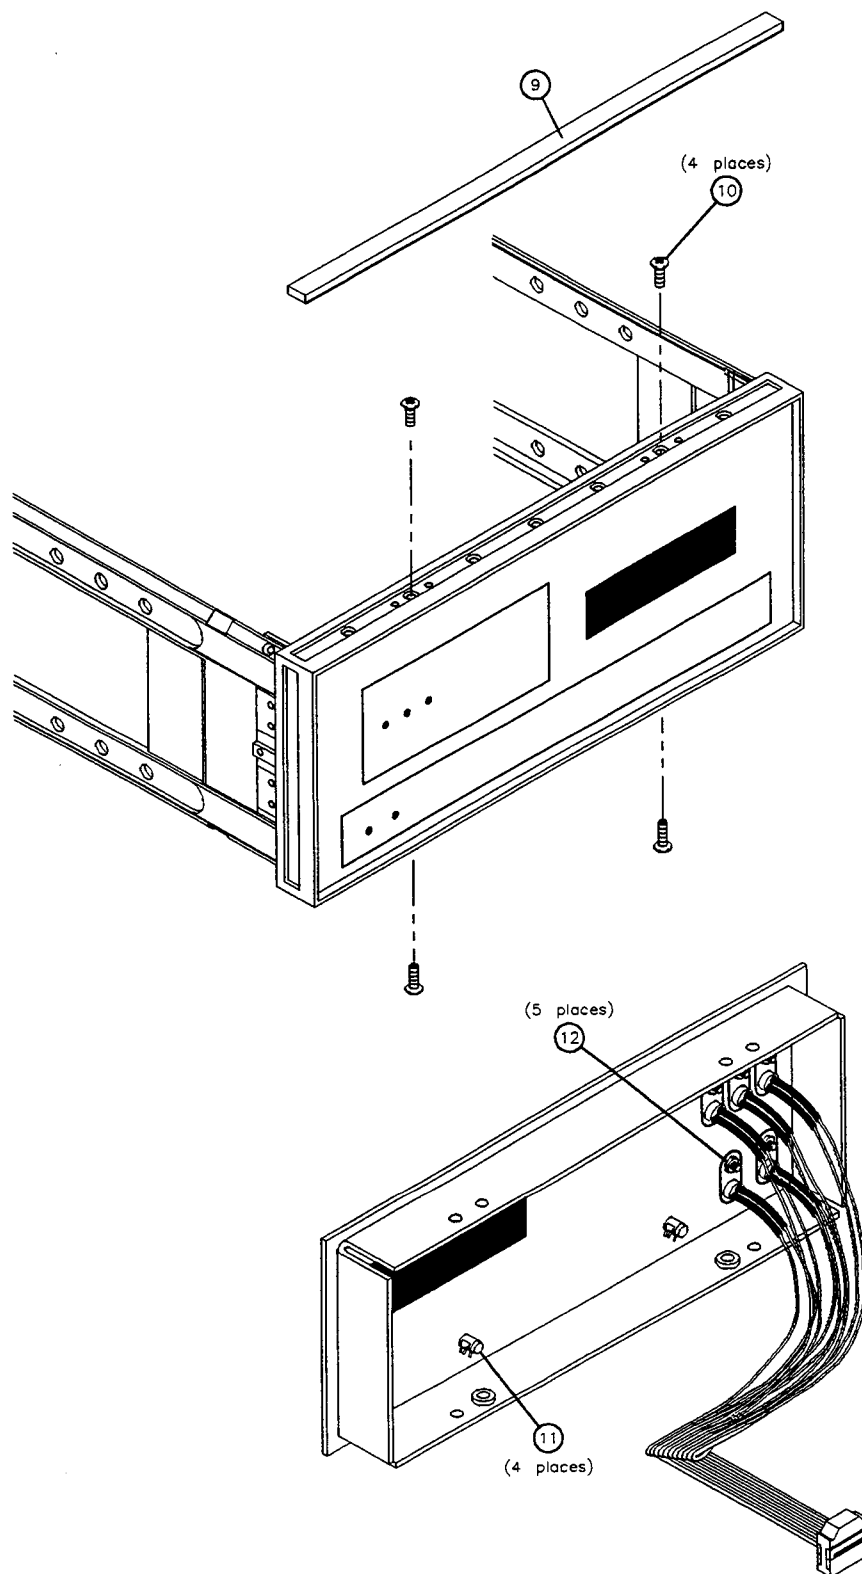

Figure 6-12. Front Dress Panel Replacement
The items shown in parentheses refer to the corresponding items, shown in Figure 6-12.
2. Remove the four screws (item 1) from the corners of each side frame. Remove the ten screws (item 2) from the sides of each side frame.
3. Remove the center screw and washer (item 3) from the relay cover.
4. Disconnect the ribbon cable (item 7) on the motherboard.
5. Refer to Figure 6-12. Remove the top trim strip (item 9) and the four screws (item 10) from the front frame.
6. To remove the sub-panel from the front panel, use needlenose pliers to remove the four retainer clips (item 11) from the sub-panel.
7. Remove the five nuts and washers (item 12) securing the LEDs and remove the LED cable assembly from the sub-panel.